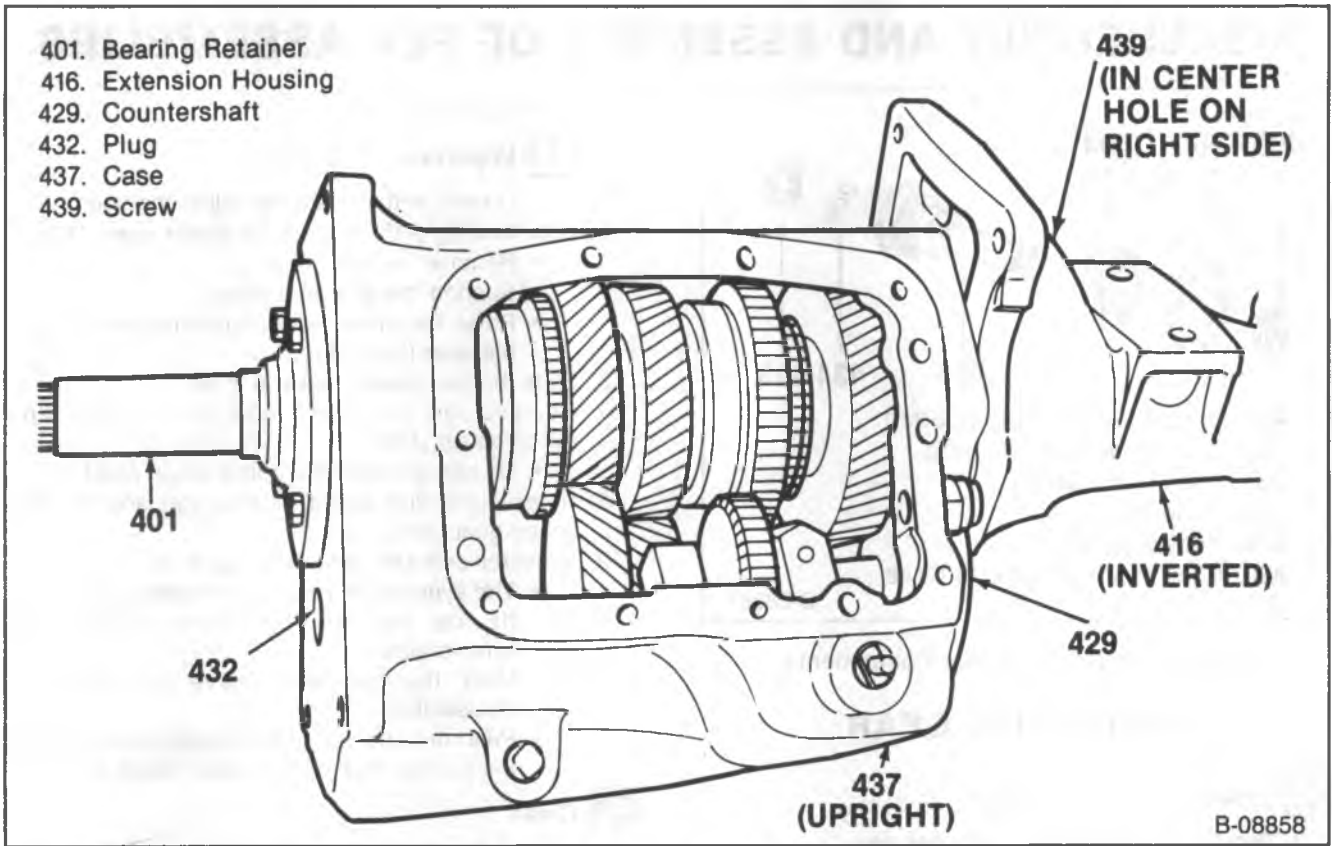

Figure 3—Turning the Extension Housing
1. Reverse shift lever (445).
2. Side cover (450) and the gasket.
3. Extension housing screws (439), (figure 3).